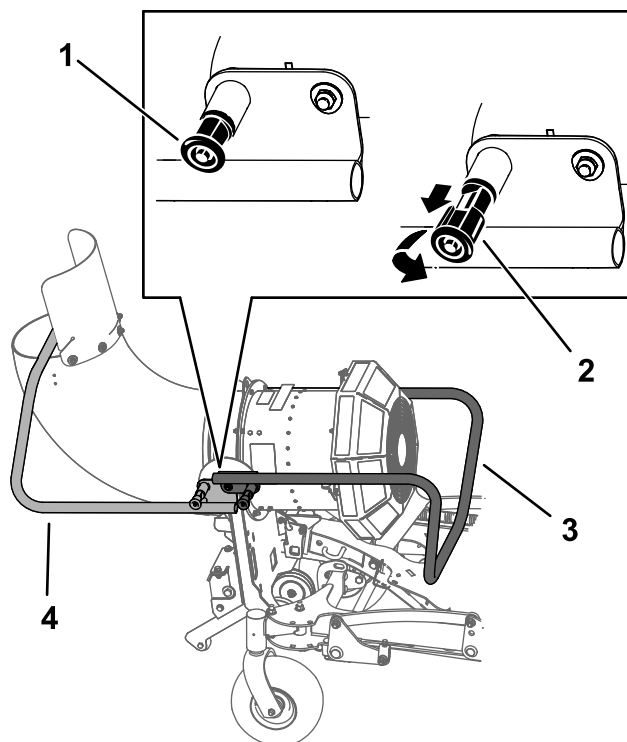

Figure 22
3. Pull out the kickstand locking pins on both sides of the machine, rotate them 90 degrees so that they are disengaged, and raise the kickstand (Figure 22). Engage the knobs and ensure that the pins snap into position.